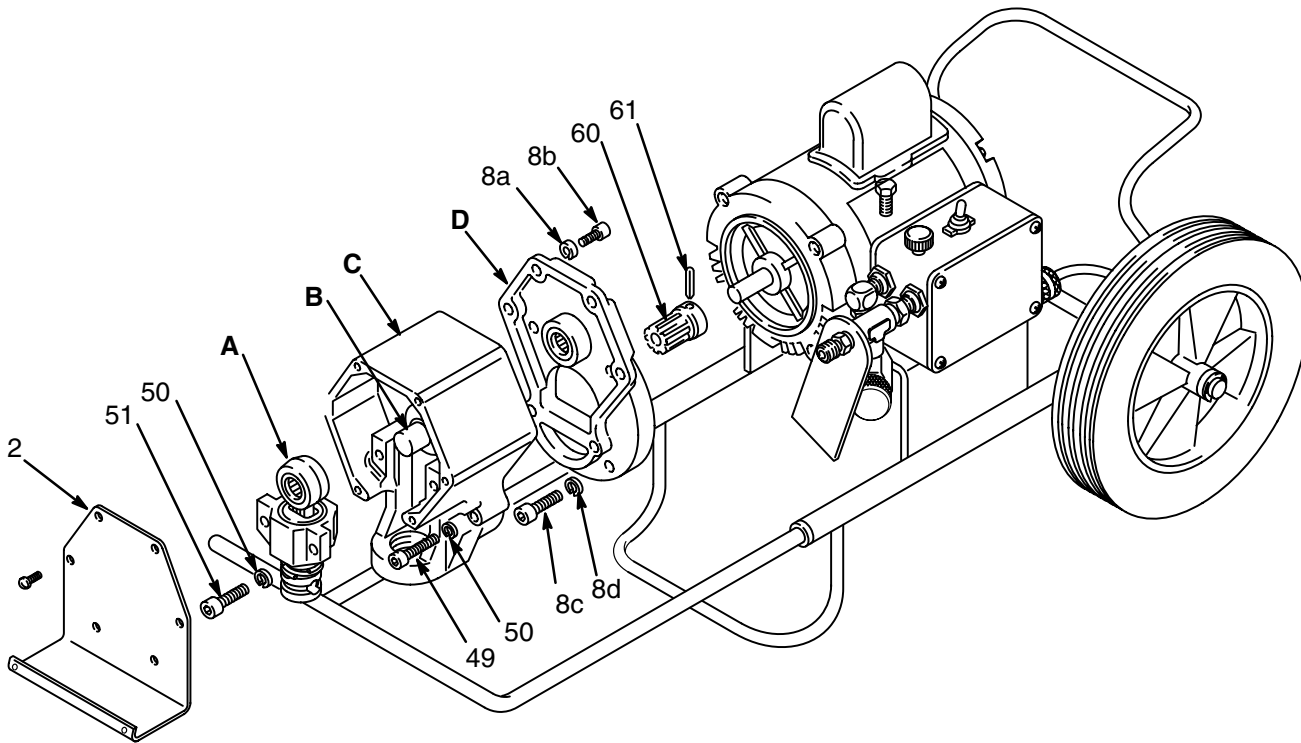
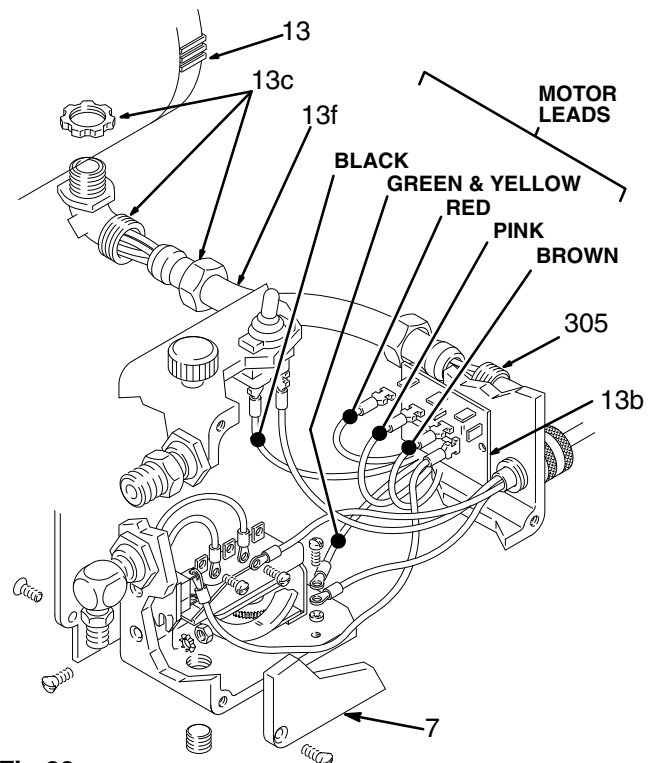

Fig 20
Fig 22
NOTE: Refer to Fig 20 for this procedure.
NOTE: Refer to Fig 22 except where noted.
NOTE: In Fig 22, the pressure control is shown pulled away from the cart for visual purposes only. You do not have to remove the pressure control to replace the motor.
3. Remove the pressure control cover (7). Disconnect the motor leads. See Fig 22.
4. Unscrew the connector nuts (13c & 305) on both ends of the conduit (13f). See Fig 22.
5. Remove the motor mounting screws (38). See Fig 20. Lift the motor off the frame and carefully guide the wires through the pressure control connector (305). Remove the conduit (13f) from the wires. See Fig 22.
6. Unscrew the connector (13c) from the motor. Do not twist the wires. See Fig 22.
1. Remove the cover of the capacitor (13a). See Fig 22. Remove the flag connectors from the old capacitor. Connect the flag connectors to the new capacitor and replace the cover.